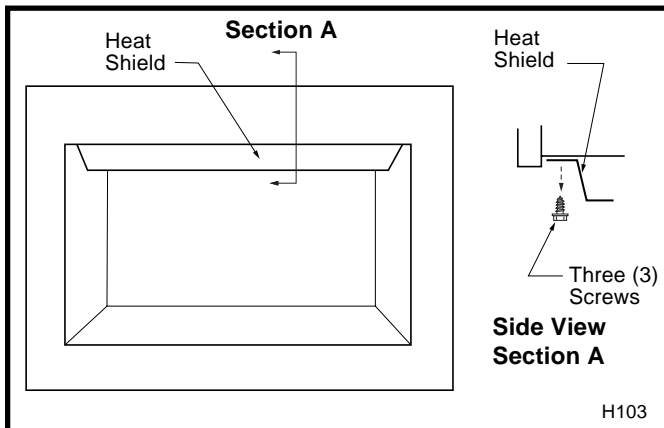

Fig. 33 Heat shield.
3. Remove three (3) screws securing heat shield to combustion dome. (Fig. 33)